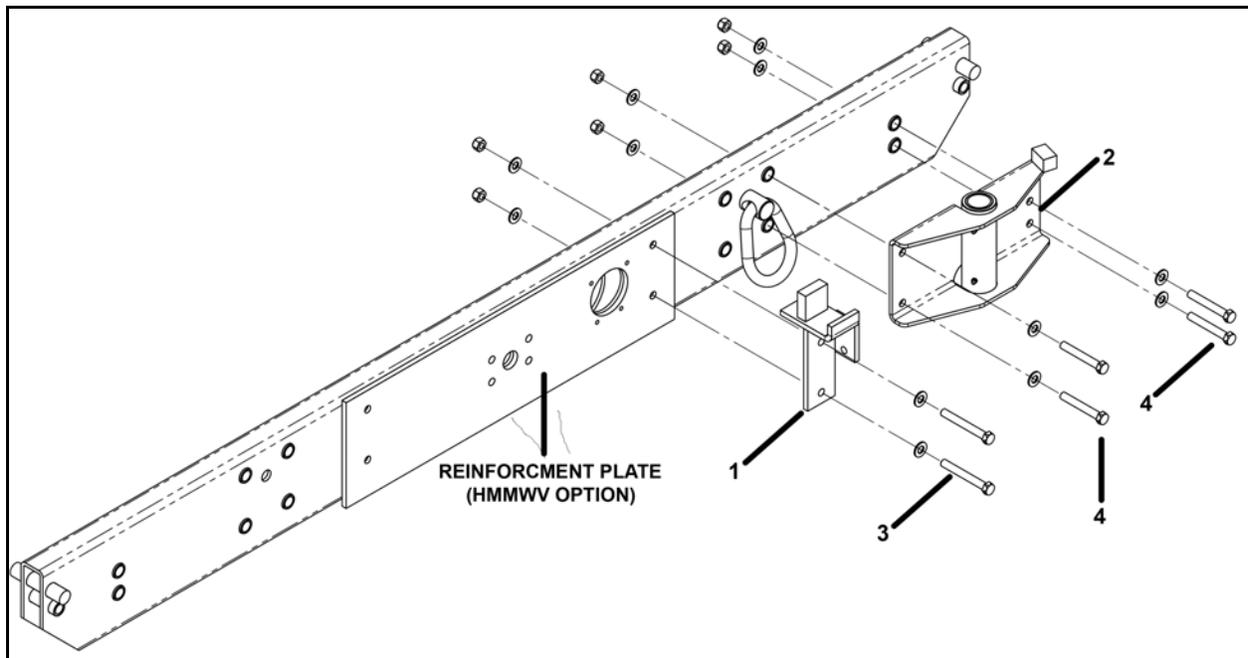

FIGURE 4-1
Install the Bumper Lock on the HMMWV Bumper (Refer to Figure 4-1)
2. Position the Bumper Lock (1) on the HMMWV bumper as shown in Figure 4-1. The Bumper Lock (1) should be level with the bumper.
3. Install the Bumper Lock (1) using two 1/2-13 x 4" capscrews (3), washers and locknuts as shown in Figure 4-1.
Install the Pivot Mount on the HMMWV Bumper (Refer to Figure 4-1)
3. Position the Pivot Mount (2) on the HMMWV bumper as shown in Figure 4-1. The Pivot Mount should be level with the bumper.
4. Install the Pivot Mount (2) using four 1/2-13 x 3-1/2" capscrews, washers and locknuts as shown in Figure 4-1.